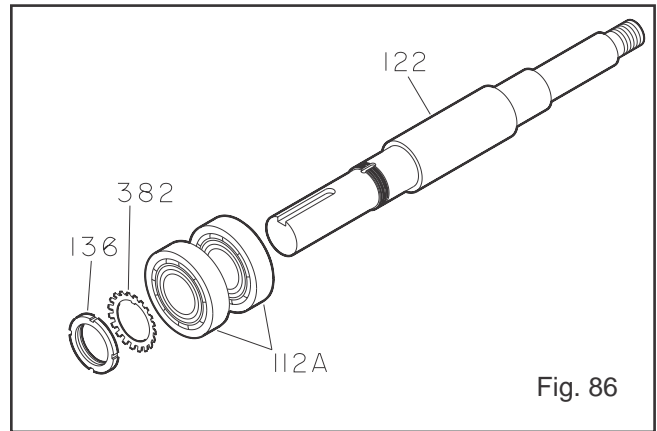

Fig. 86
10. Remove bearing locknut (136) and bearing lockwasher (382) (Fig. 86).